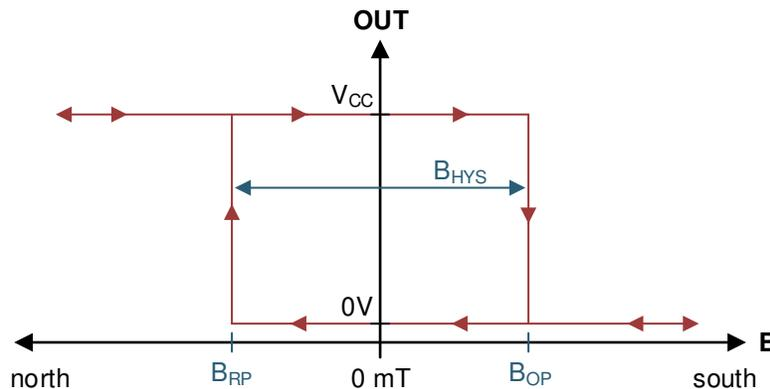

Figure 3-1. Hall Latch Output
3. Rotate the magnet to the opposite orientation. If the threshold is met, the device should have the opposing reaction than it did in the previous step. A South field over the  $B_{OP}$  will turn on the LED while a North field less than the  $B_{RP}$  threshold will turn off the LED. See Figure 3-1 for the magnetic response of a Hall-effect latch.